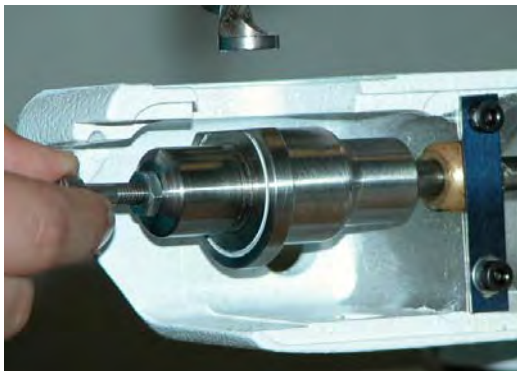

Figure 12.2
1. Install the Cylinder Tool with the flat side up. (Fig 12.2)